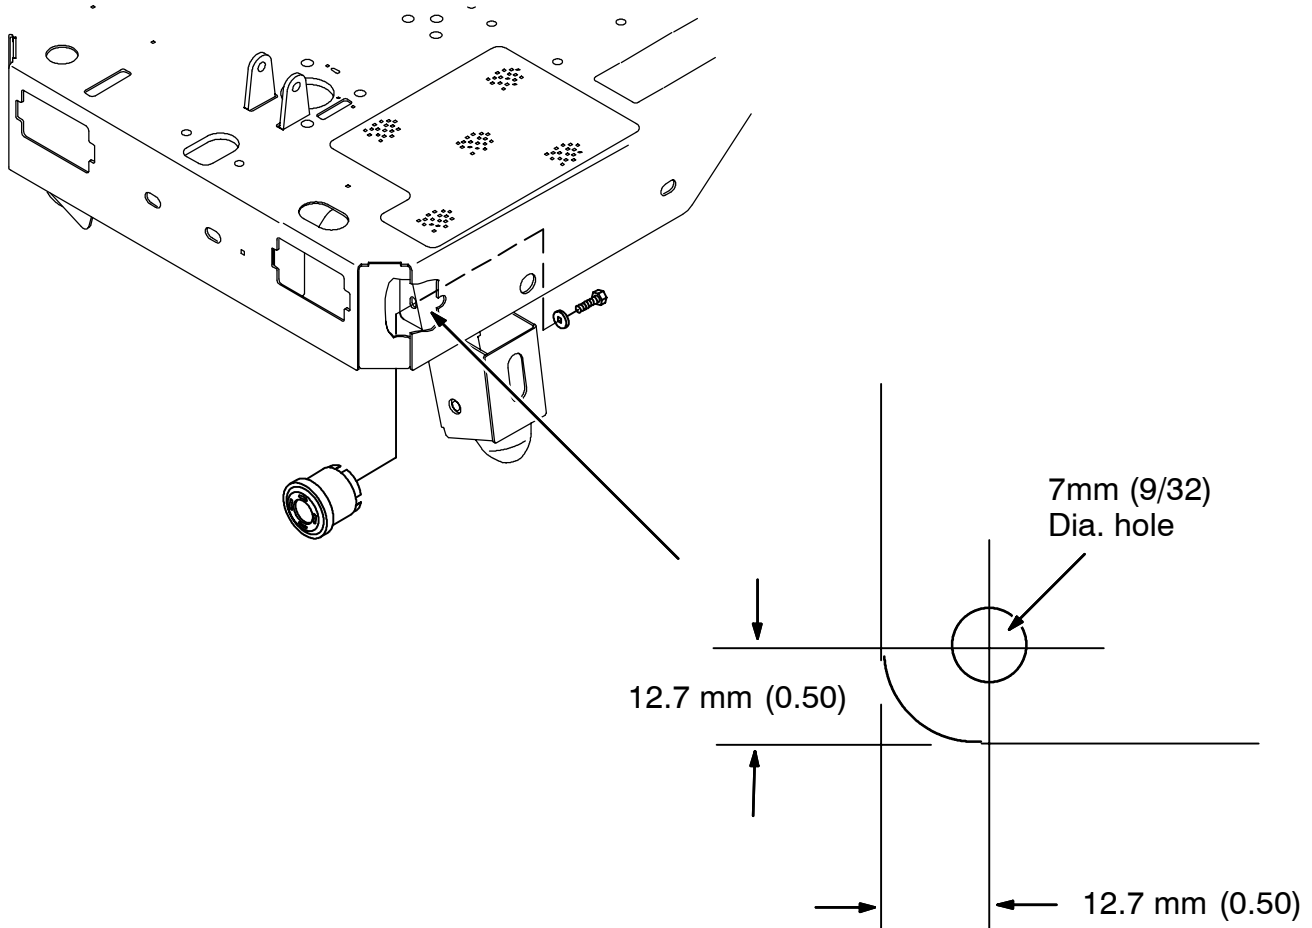

FIG. 1 - REWORK MOUNTING PLATE
(Refer to FIG. 1 thru 3)
3. Mark and drill a new 7 mm (9/32) hole in the horn mounting plate. (Refer to FIG. 1)